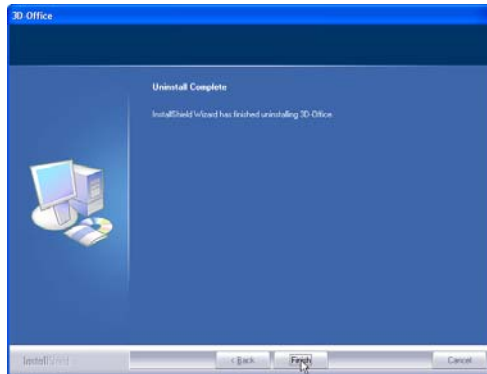

Figure 1-5. 3D-Office Successfully Removed
3. Click **OK** to acknowledge the removal of 3D-Office (Figure 1-5).